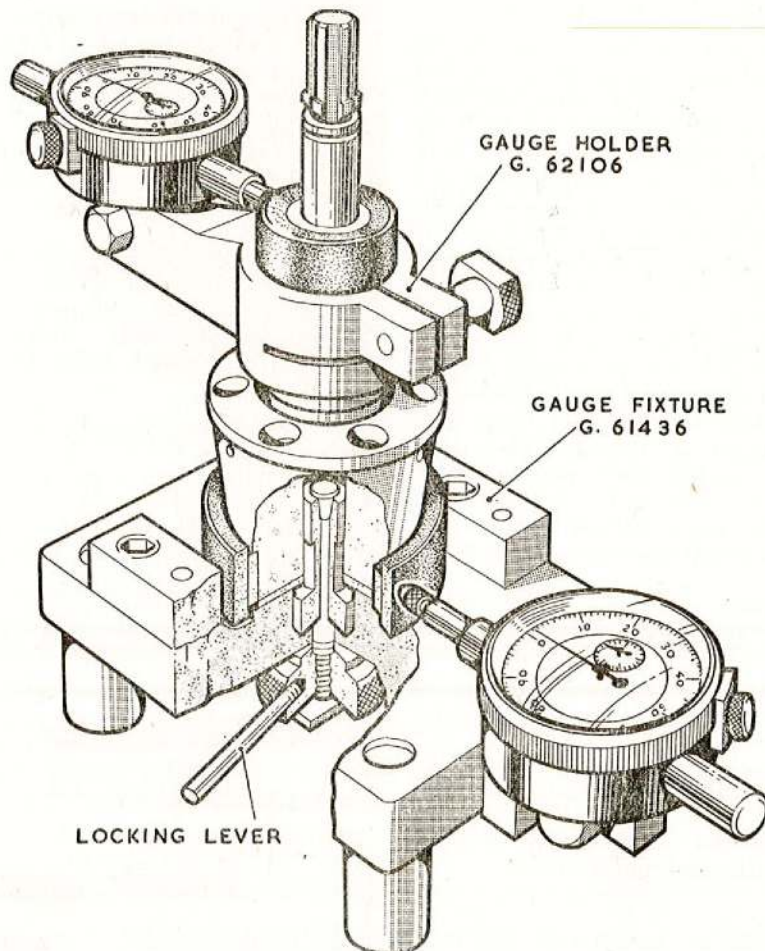

Fig. 21. Checking the carbon bearing clearances
96. Check the diametral clearance between the bearings and their corresponding journals on the rotor. In this instance the large bearing clearance is checked on gauge G.61436 and the small bearing on gauge G.62106 both being used together for convenience as shown in fig. 21. The rotor and main carbon bearing is placed first on gauge G.61431 and secured by moving the locking lever which expands a small collet to grip the centre bore of the rotor.